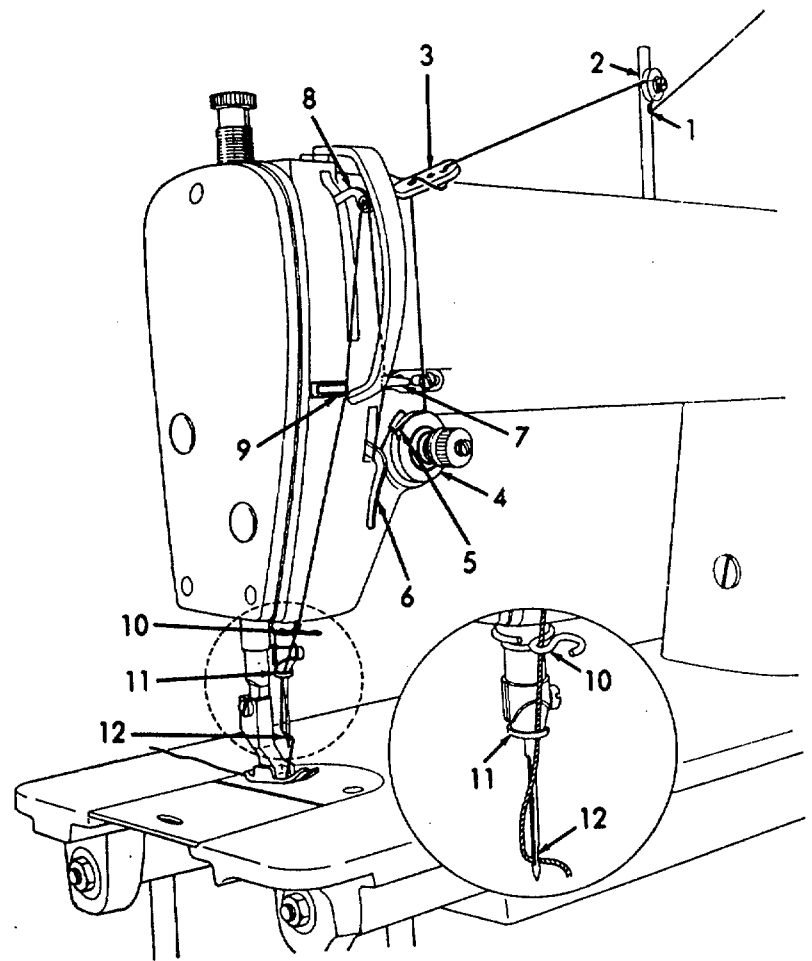

Figure 2-23. Threading the Clothing Sewing Machine.
- (2) Feed loose end of thread (3) through unwinder loop (4).
- (3) Refer to Figure 2-23. Using your hand, turn the machine pulley toward you until the take-up lever (8) is to its highest position.